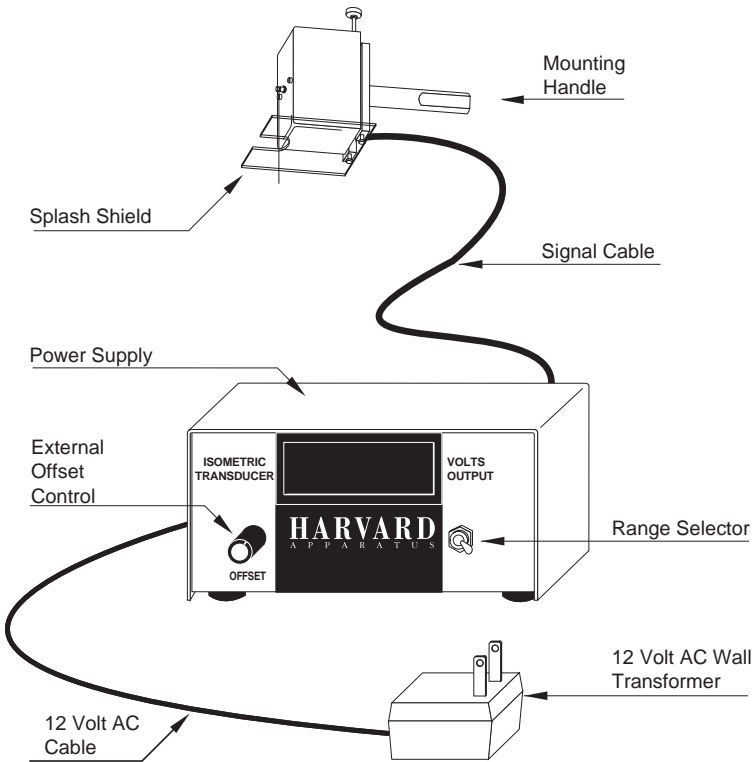

Figure 2. Diagram of Isometric Transducer
- a) The entire transducer is powered by a 12 volt AC wall transformer. (See Fig. 2)
The range selector switch has two positions: 5.0 gram and 50 gram (See Fig. 2)
The OFFSET control enables the user to set a zero output voltage for any pre-load value. (See Fig. 2) It is essentially a "Tare Control" device since it balances out static loads such as the weight of the muscle preparation prior to contraction.